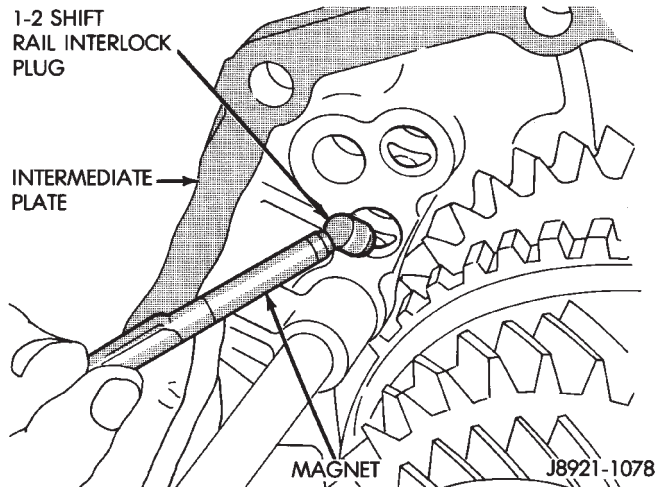

Fig. 85 Install 1-2 Shift Rail Interlock Plug
(14) Install 1-2 shift rail interlock plug in the intermediate plate (Fig. 85).